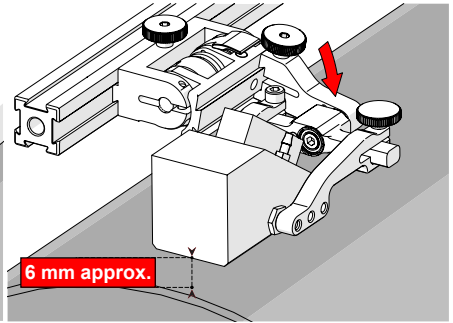

Fig. 70 - Lower to scanning surface
2. Push the probe holder yoke down toward the inspection surface until the wedge is approximately 6 mm ( $\frac{1}{4}$  in) above the inspection surface (Fig. 70).